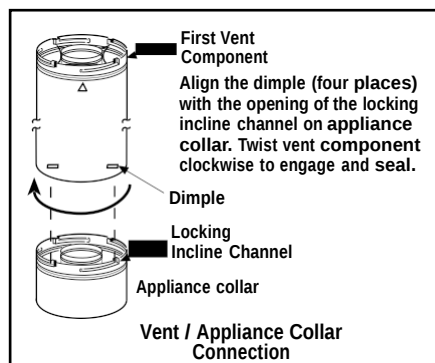

Figure 27
B. Attach vent components to appliance - **Secure Vent® SV4.5** direct vent system components are unitized concentric pipe components featuring positive twist lock connections (see **Figures 27 and 28**).
To attach a vent component to the appliance collar, align the dimpled end over the collar, adjusting the radial alignment until the four locking dimples are aligned with the inlet of the four inclined channels on the collar (refer to **Figure 27**). Push the vent component against the collar until it fully engages, then twist the component clockwise, running the dimples down and along the incline channels until they seat at the end of the channels. The unitized design of the **Secure Vent** components will engage and seal both the inner and outer pipe without the need for sealant or screws. If desired a #6 x 1/2" screw may be used at the joint, but it is not required as the pipe will securely lock when twisted.